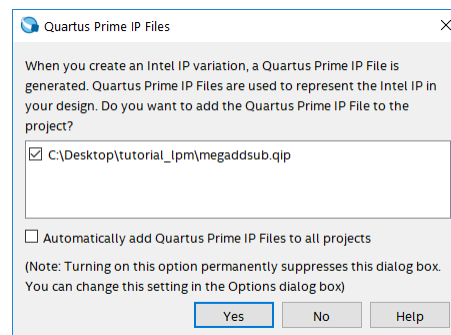

Figure 12. Do not add the new files to the project.
10. The box in Figure 12 may pop up. If it does, make sure to press **No**, since adding the newly generated files to the project is not needed when using VHDL (in fact, this may cause compilation errors).